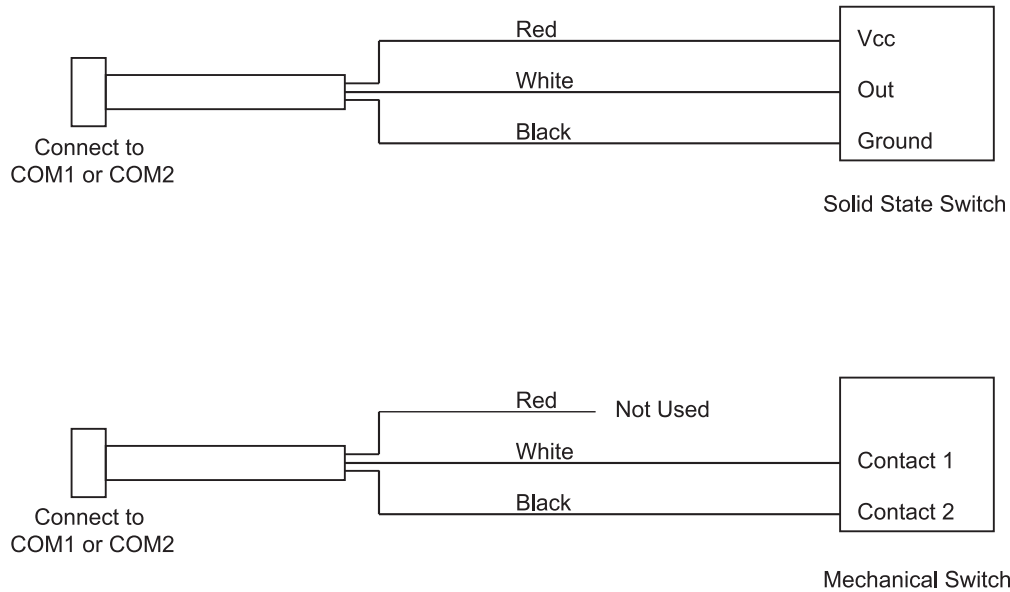

Figure 2-57 *In-Motion Detector Cable Wiring*
2. Wire the cable and switch as shown in Figure 2-57.